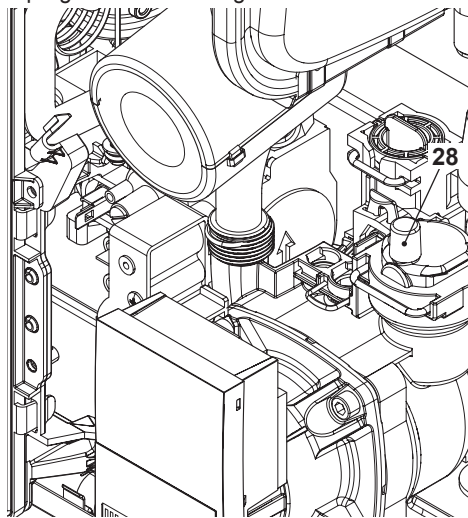
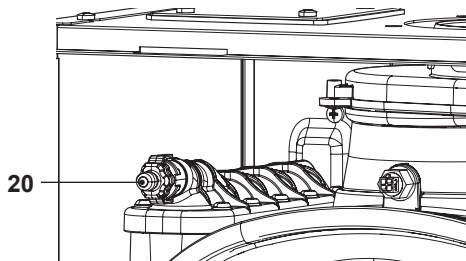

Fig. 10.7
Fig. 10.8
- To make draining easier, lift the plug 28 of the automatic relief valve in Fig. 10.7. To help the draining of the primary circuit loose the condensing heat exchanger air purger valve 20 in Fig. 10.8.